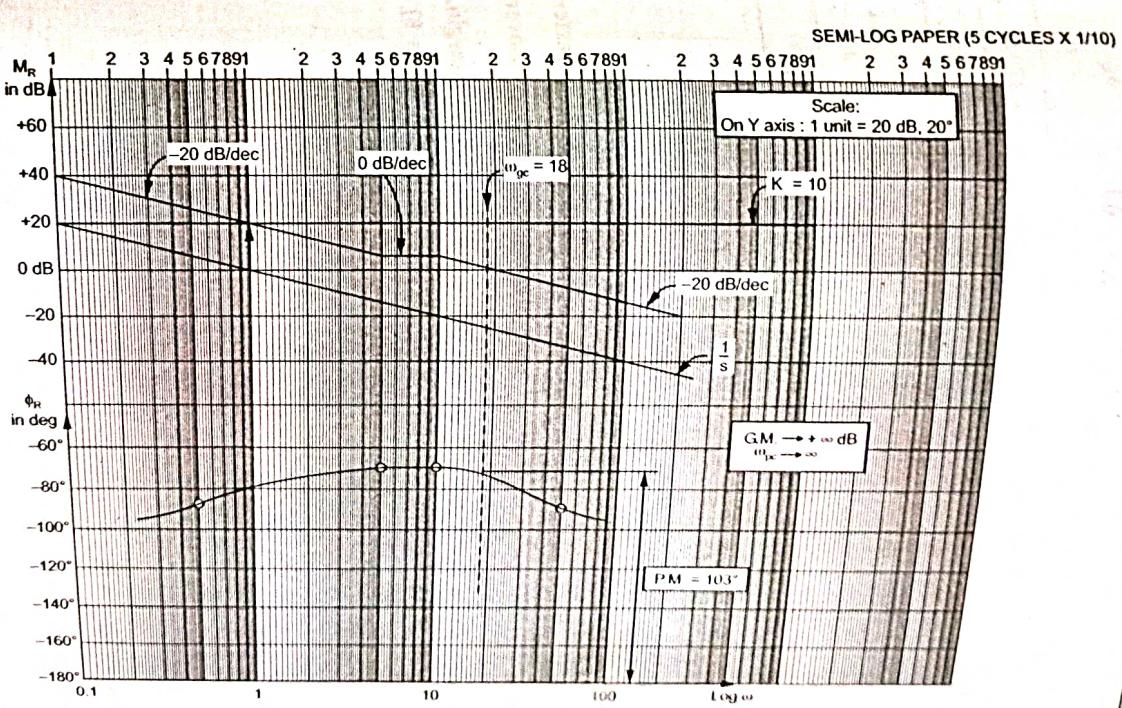

Fig. Q.16.1
**Step 4 :** The Bode plot is shown in the Fig. Q.16.1.